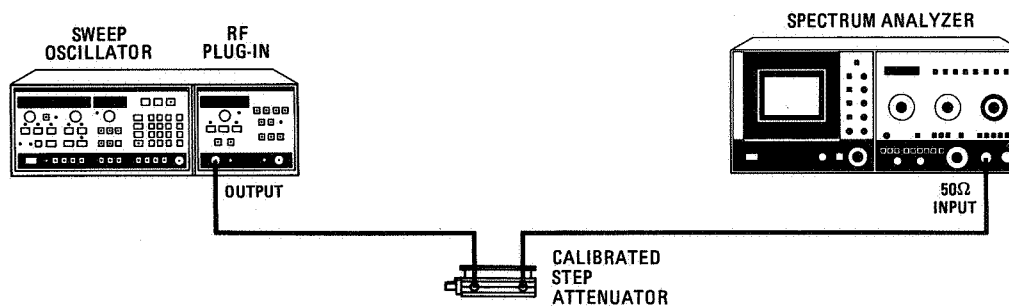

Figure 4-19. Attenuator Accuracy Test Setup
1. Connect equipment as shown in Figure 4-19. Press 8350A INSTR PRESET , CW . Enter the frequency and power level shown on the test card step 1.